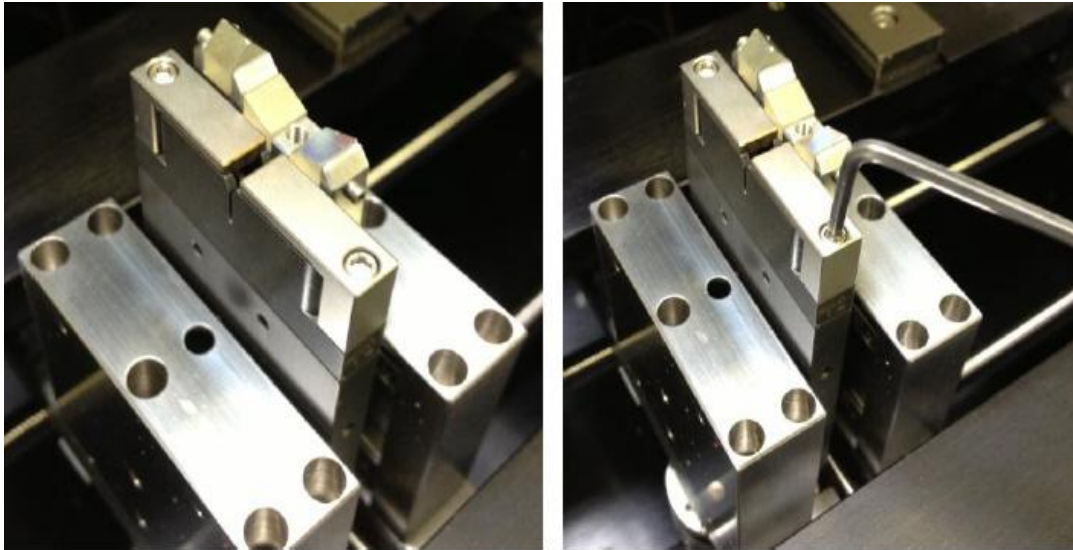

Figure 26 Remove the screws on the stainless steel cover plates
5. Remove the 2 screws that secure the stainless steel cover plates (as seen in Figure 26) onto the furnace using a 5/64" hex key or balldriver.